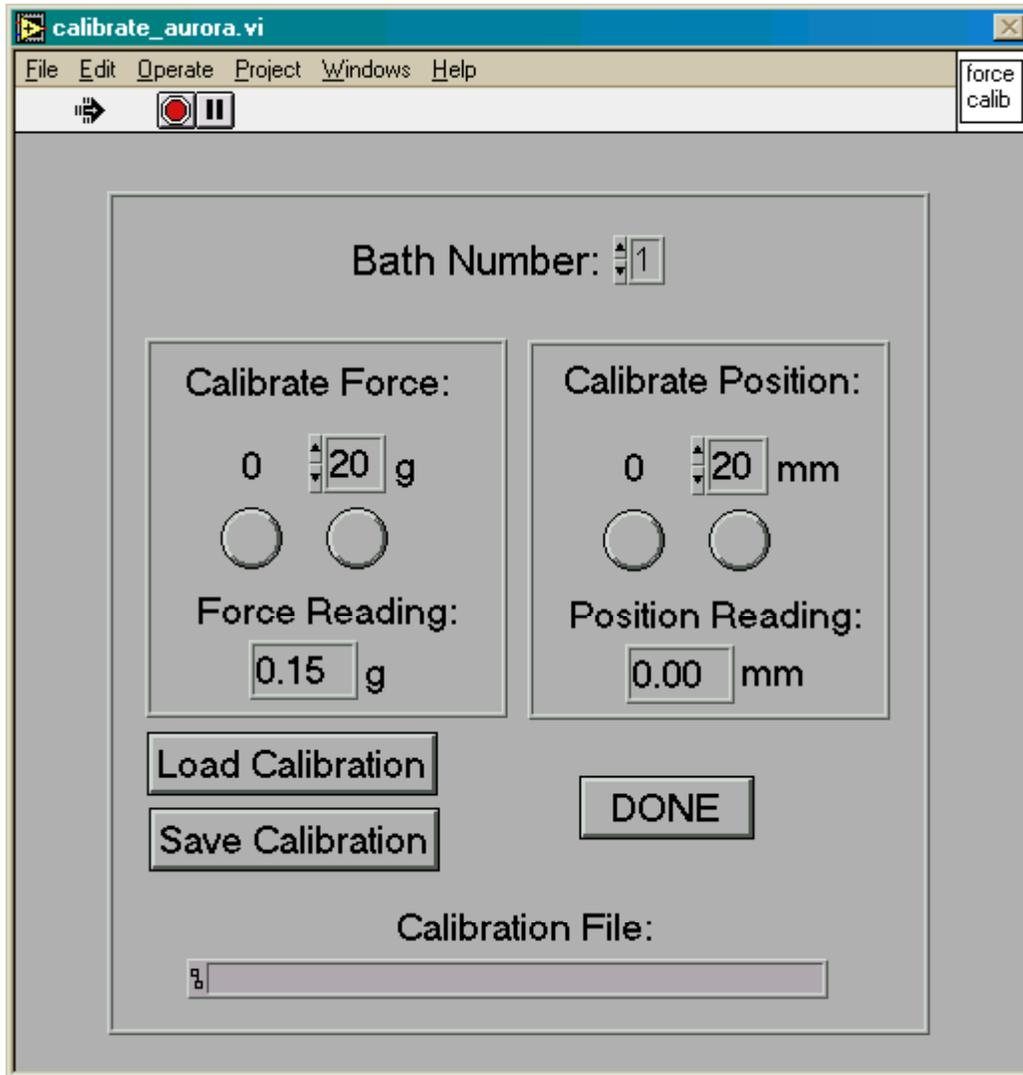

Figure 14. Calibration Window
- 2) Variables were input as is shown above in Figure 14.
- 5) Figure 14 shows the timing and amplitude of the sine wave that will drive the movement of the arm ('Frequency (Hz)', currently 5 Hz), as well as the onset of stimulation ('First
- 8) The vertical white lines in Figure 14 indicate the timing of the stimulation pulses.